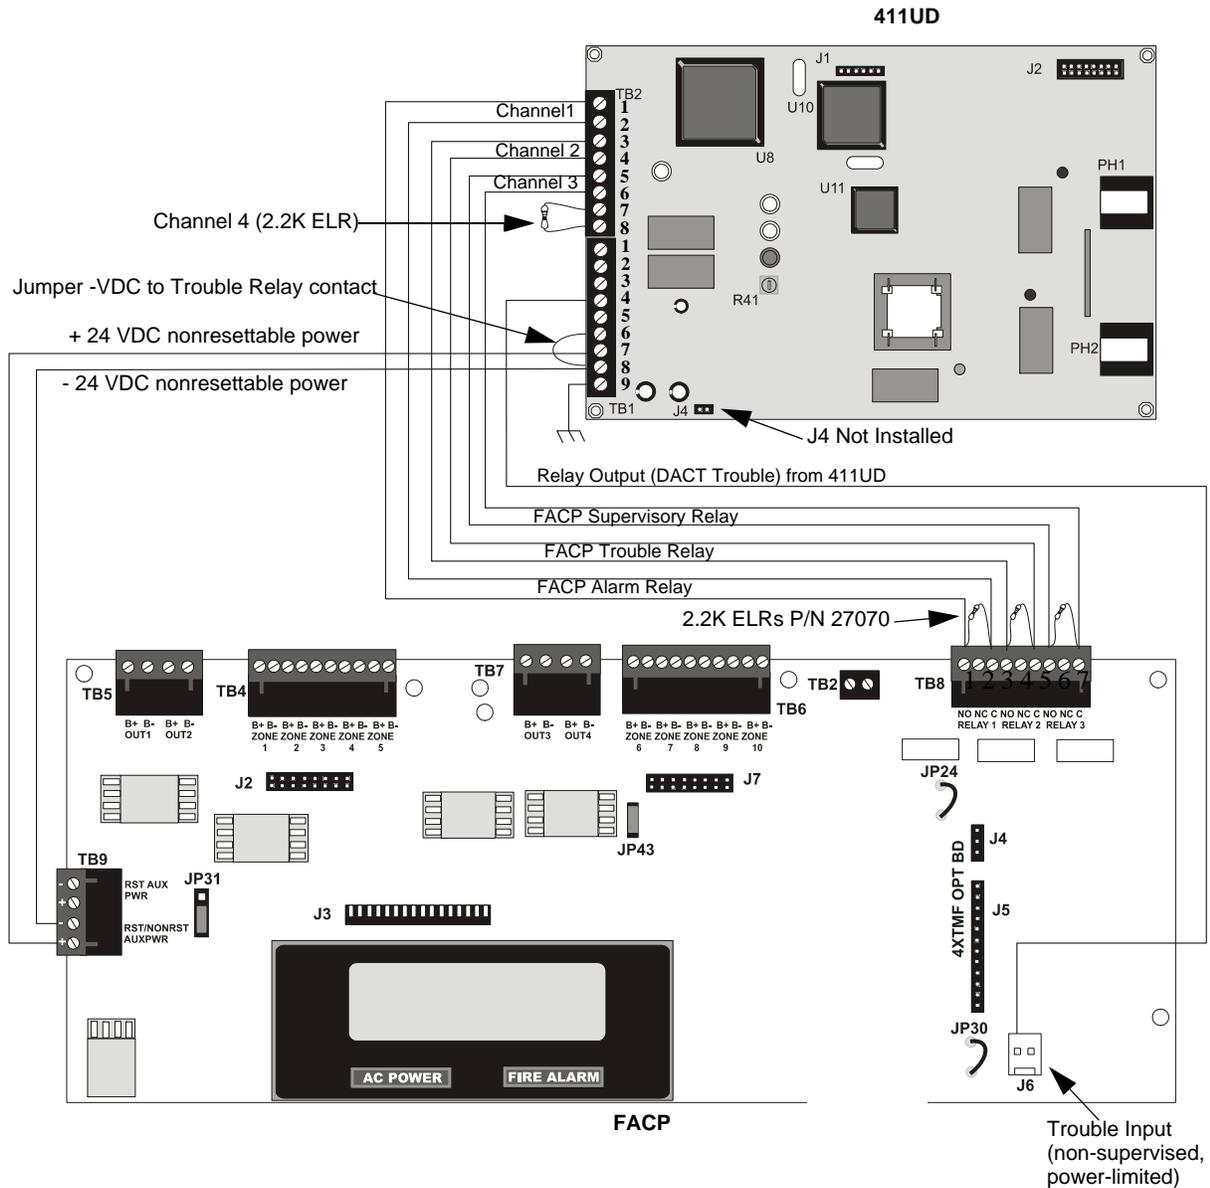

Figure B.1 MS-5UD/MS-10UD FACP Connection to 411UD
411UD may be installed as illustrated in Figure B.1, “MS-5UD/MS-10UD FACP Connection to 411UD,” on page 126.
5. Any zone of the 411UD can be wired to function as alarm, trouble or supervisory. In Figure B.1 on page 126, Channel 1/Zone 1 is wired to the control panel's alarm relay, Channel 2/Zone 2 is wired to the control panel's trouble relay and Channel 3/Zone 3 is wired to the control panel's supervisory relay